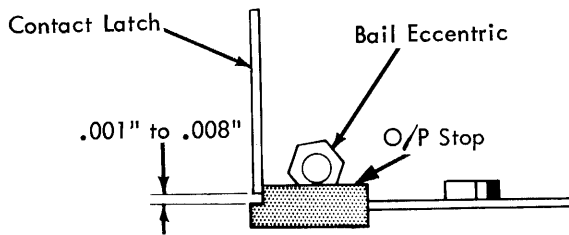

FIGURE 179. Bail Eccentric
2. Bail Eccentric (Fig. 179) - Adjust (all operational functions restored) so that the latches clear the O/P stops by .001" to .008".